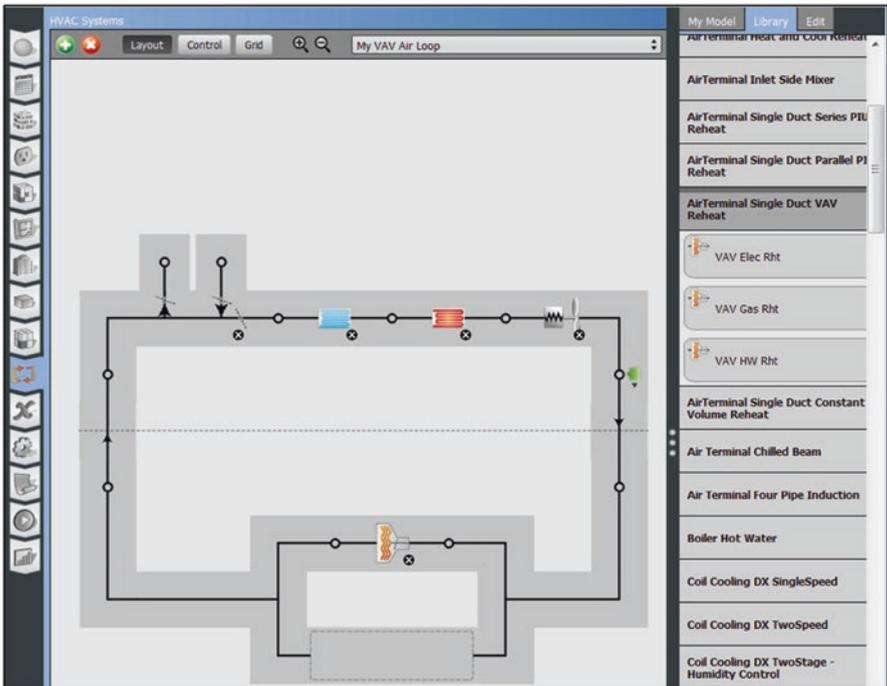

Fig. 5.42 Air Loop with VAV reheat terminal
Next navigate in the Library to locate the “AirTerminal Single Duct VAV Reheat” terminal Objects. Select the “Hot Water (HW) Reheat” Object and drag it to the demand side. The result should now look like Fig. 5.42.